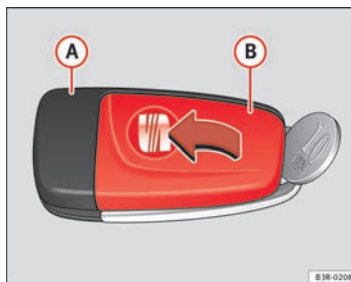

Fig. 69 Master key: Opening the cover
- **Carefully** prise apart the key ⇒ fig. 69 A and the cover B using a coin.